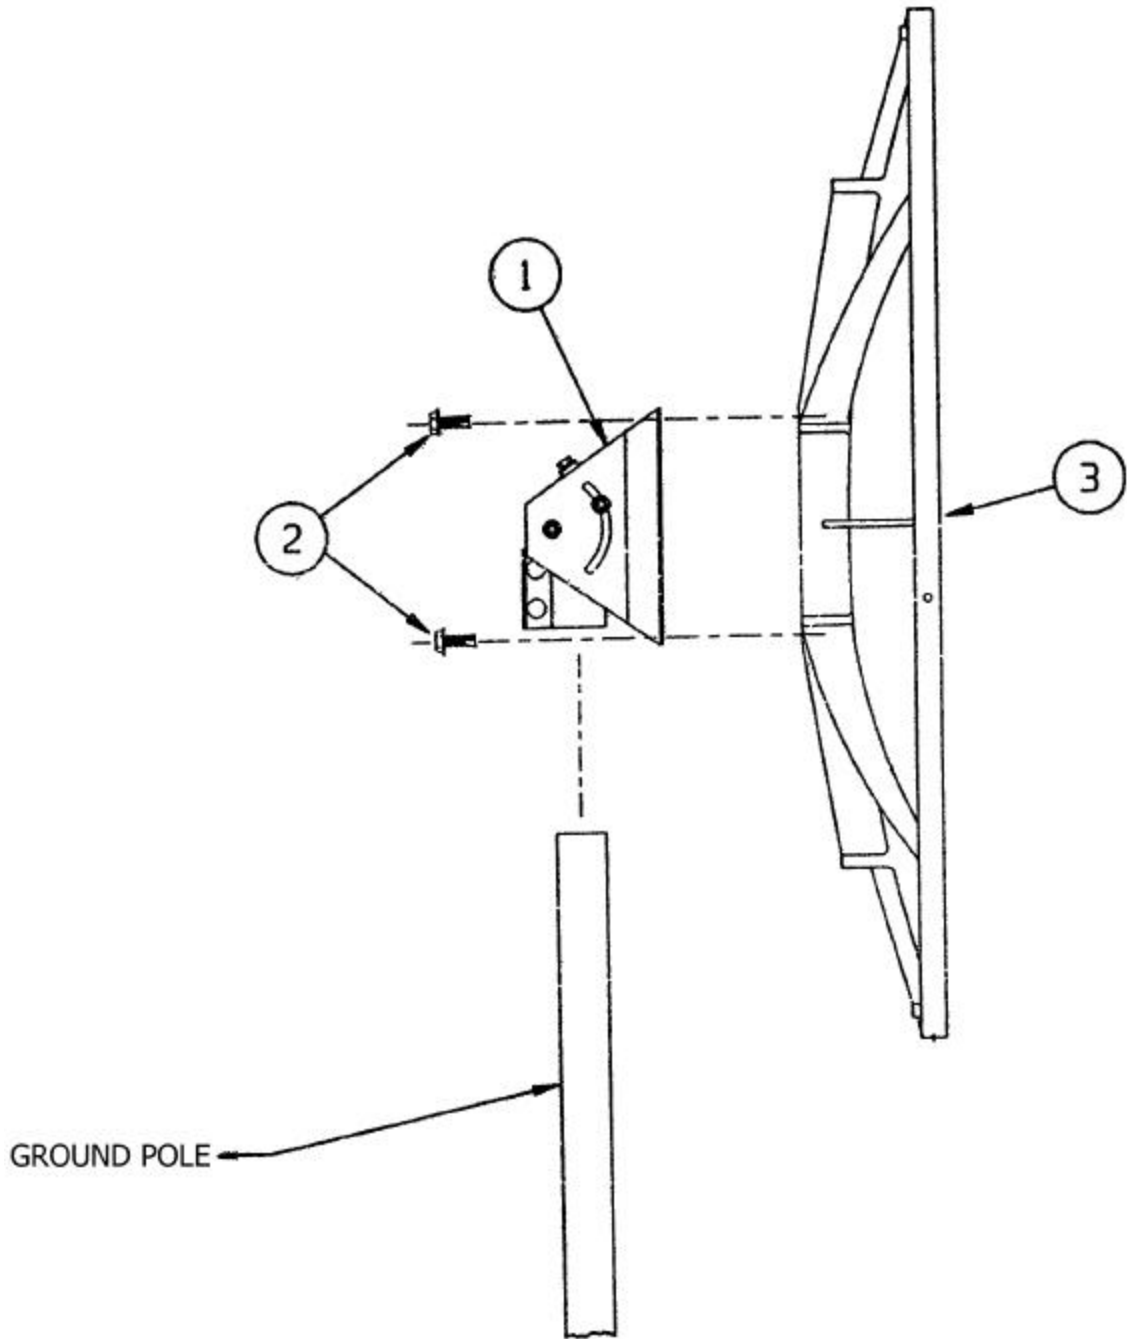

Figure 2.1-1
Step 1: Attach the reflector (item# 3) to the Az/EI Cap (item #1) with [4] hi-lo screws (item#2). *Note: The bottom of the reflector has a hole for the feed rod, the top does not.* Tighten the [4] screws to 10 ft/lb. See figure 2.1-1.
- Step 2:** Refer to the elevation scale located on the side of the Az/El positioner as shown in figure 3.0-2. To set the antenna system to the correct elevation angle, loosen the elevation pivot hardware (shown in figure 2.1-1) on both sides of the mount just enough to unlock the lock washers. Then turn the elevation adjustment screw. Note: the scale has a 22.5° offset angle built in. Therefore, when the elevation angle is read on the scale, the 22.5° offset in the reflector has been accounted for.